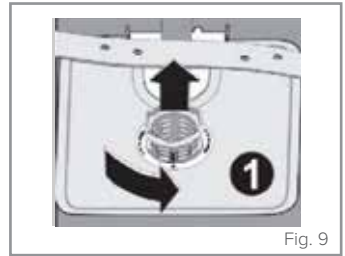

Fig. 9
2. Turn the microfilter anticlockwise and then lift it out (Fig. 9).